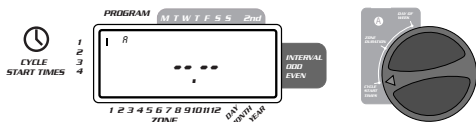

FIGURE 5: LCD Display with Start Time
- The way you set the cycle start time is the same for both programs. Turn the rotary dial to the **CYCLE START TIMES** position in the program that you want to set. The display will show an A or B depending on which program you have selected. The display will show ____ : ____ and a blinking cursor in **CYCLE START 1** location [See Figure 5].